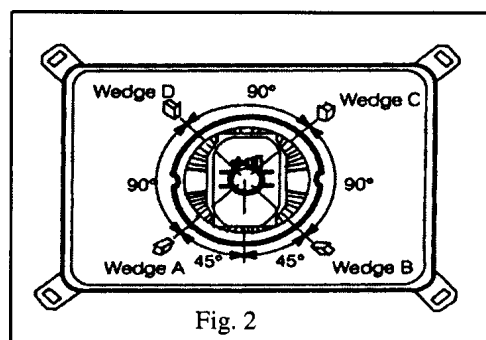

Fig. 2
8. Wedge A shown in Fig. 2 should be fixed within a range of 45° to the left of the vertical line as shown.